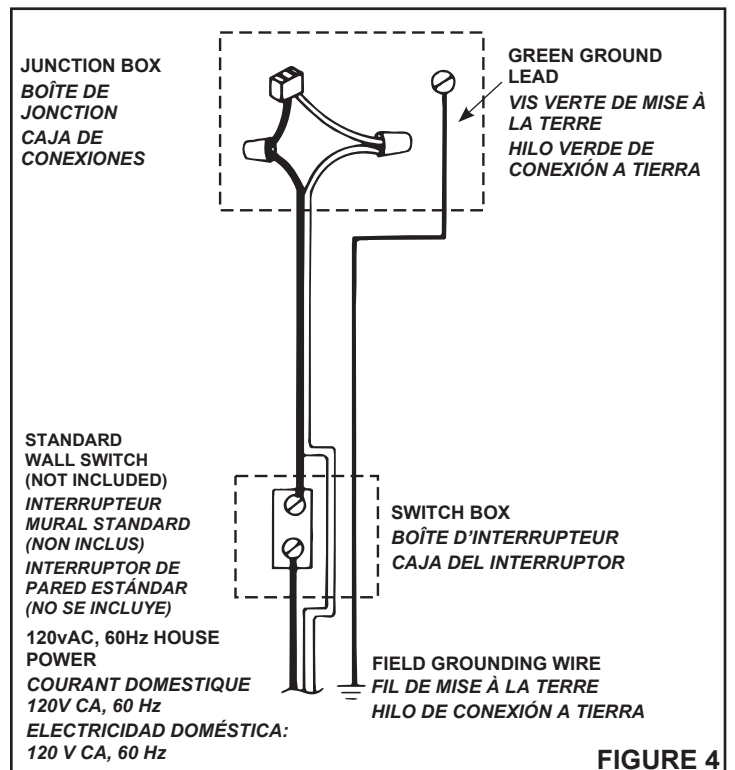

FIGURE 4
3. **Refer to Figure 4.** Use approved wire nuts to connect house supply wires to fixture as follows: white to white; black to black. Connect green or bare ground wire to green ground lead.